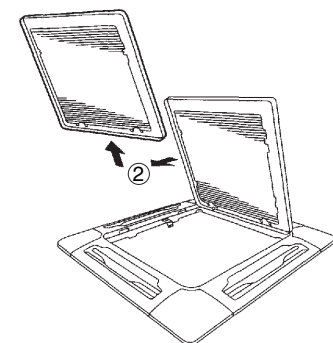

Fig. 3-17
- c) With the air-intake grille opened, remove the grille hinge from the ceiling panel by sliding it in the direction shown by the arrow ②. (Fig. 3-17)